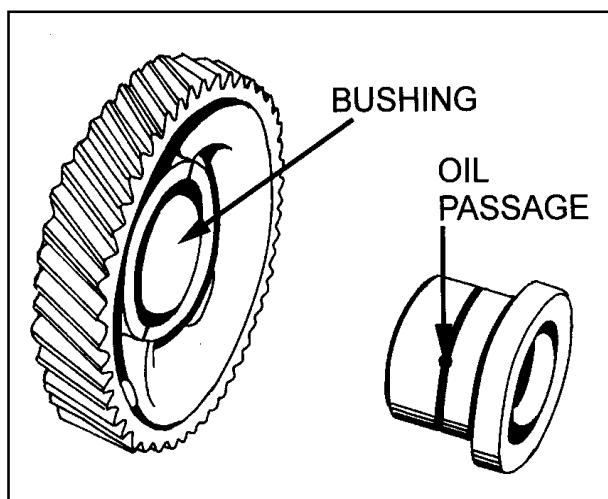

Figure 15
1. Retime the engine before installing the injection pump drive gear. To do this remove the idler gear, place No. 1 piston at top dead center, and reinstall the idler gear in mesh and the timing marks aligned to the other gears as shown in Figure 15. Tighten the idler gear adaptor bolt to the specified torque.